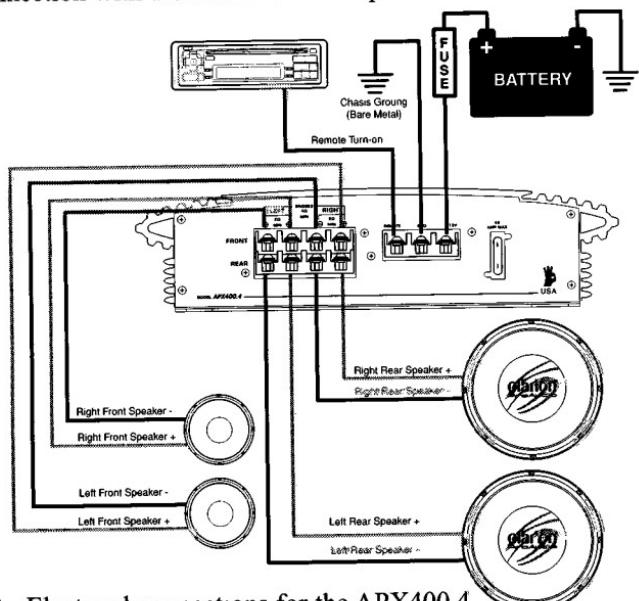

Figure 8 - Electrical connections for the APX400.4
6. Refer to the Figure 8 when making electrical connections. Connect the amplifier's positive (+) lead via a fuse directly to the positive (+) terminal on the battery. Do not connect this wire to the car's fuse panel. Use red-insulated 10-gauge (or larger) wire for the amplifier's positive (+) power lead and the same-gauge black insulated wire for the ground.